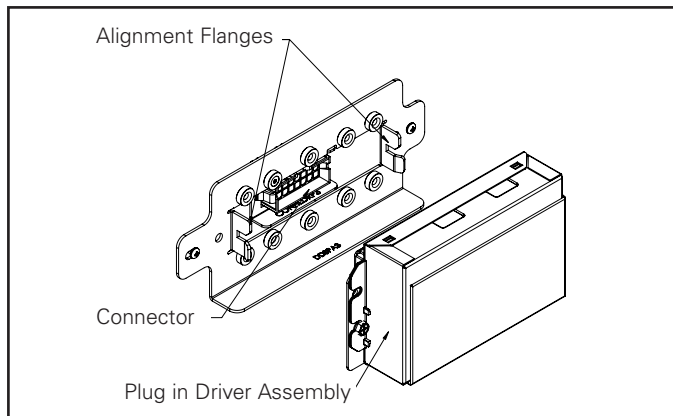

Figure 25.
8. Hold and pull the plug-in driver box assembly until it disconnects (Figure 25).
11. Align the plug-in driver box assembly with alignment flanges & the connector on the junction box and gently push it to the end till the connector engages (Figure 25).